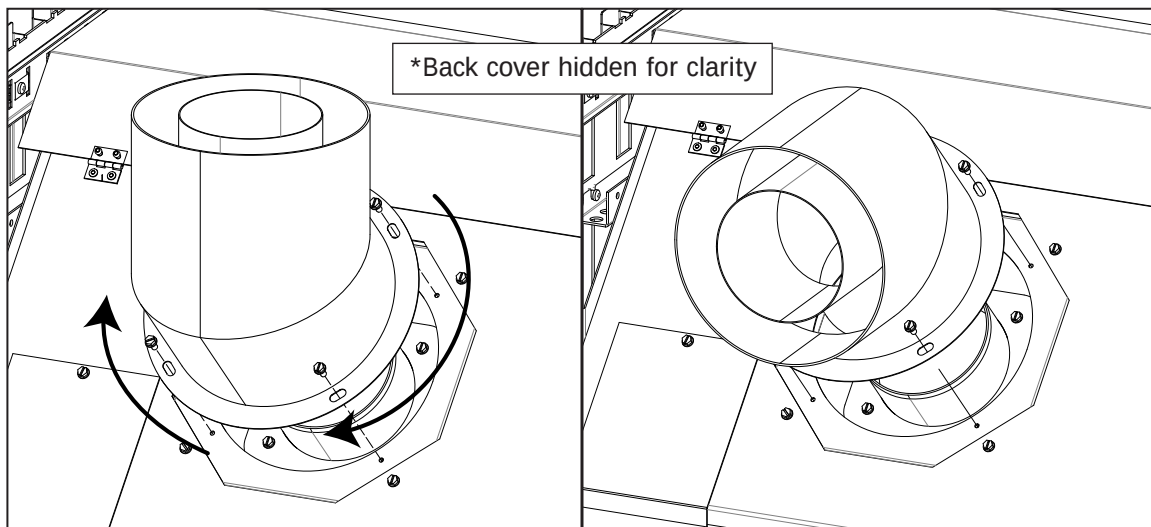

Figure 51: Flue Pipe Adapter - Rear Vent Conversion
2. Remove the four (4) #8 hex head screws holding the flue pipe adapter in place (see Figure 51).
Note: There is no polarity to the spill switch wires so it will work in either position of wires (Figure 51).